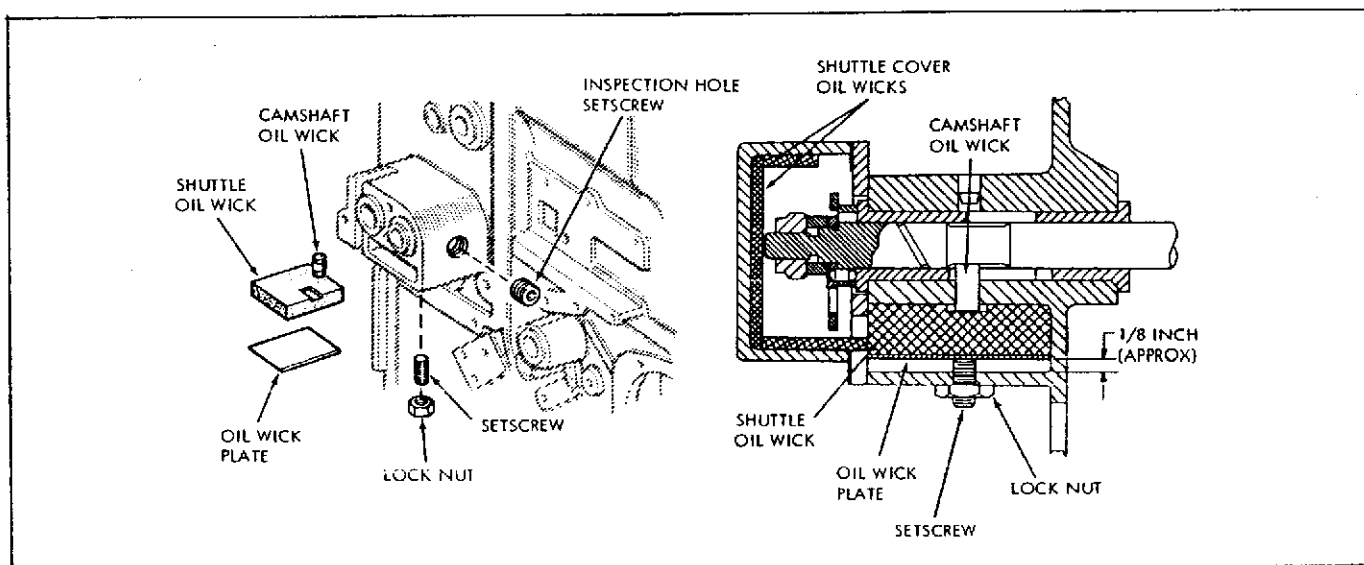

Figure 18. Sealed Lubrication System for Intermittent Mechanism
a. The sealed lubrication system of all 614EVM projectors is designed to provide proper, regulated lubrication to all intermittent mechanism parts for 1000 hours of normal operation. This lubricating system is illustrated in figure 18, and oil wicks should be installed as shown. When lubricated wicks are in place remove the inspection hole setscrew. While observing the camshaft wick through this hole, adjust the setscrew underneath the casting until the wick just contacts the front camshaft. Do not force the wick against the camshaft so that it bends or spreads. With the tip just touching the camshaft, tighten the lock nut and install the inspection hole setscrew.